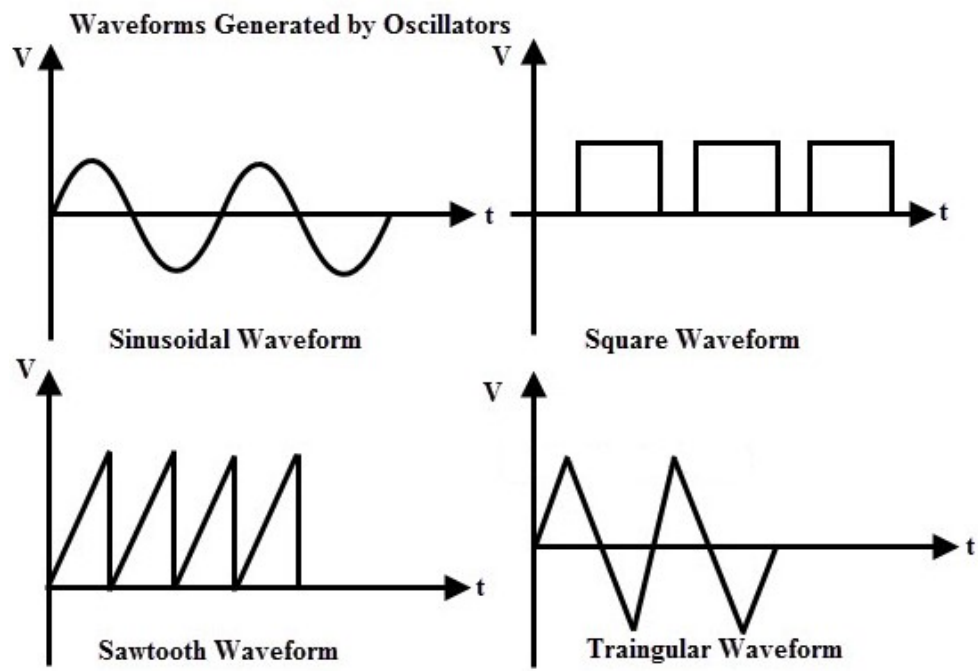

Fig. 5.6 Oscillating waveform
- Output of oscillator may be sinusoidal or non-sinusoidal as shown in the fig 5.6